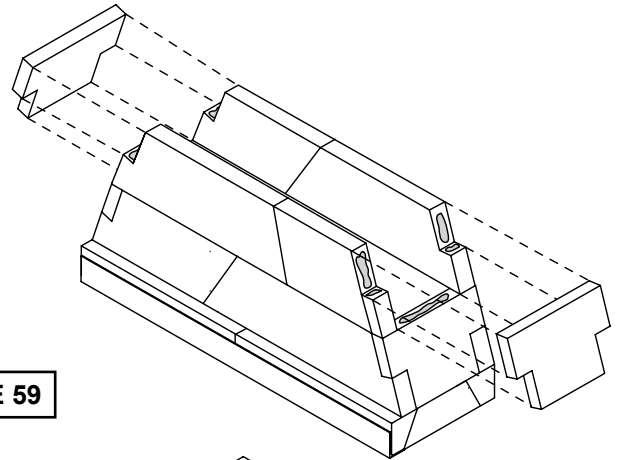

FIGURE 59
**Step 21:** Fit the top sloping smoke dome side wall components, part 34, in place between the front and back smoke dome arrangements at each end of the smoke dome. (Figure 59)